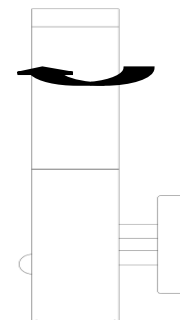

FIGURE 9
- (4) Refit the polycarbonate diffuser turn clockwise to secure it. Do not over tighten. FIGURE 9